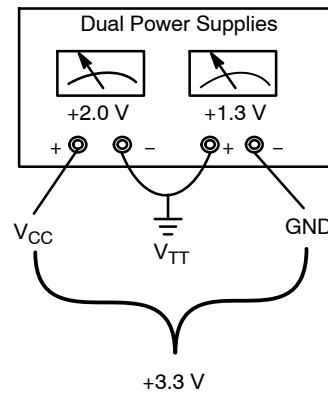

Figure 3. “Spilt” Power Supply Connections
- b.. or; Connect a “split” power supply to the evaluation board. (see Figure 3)